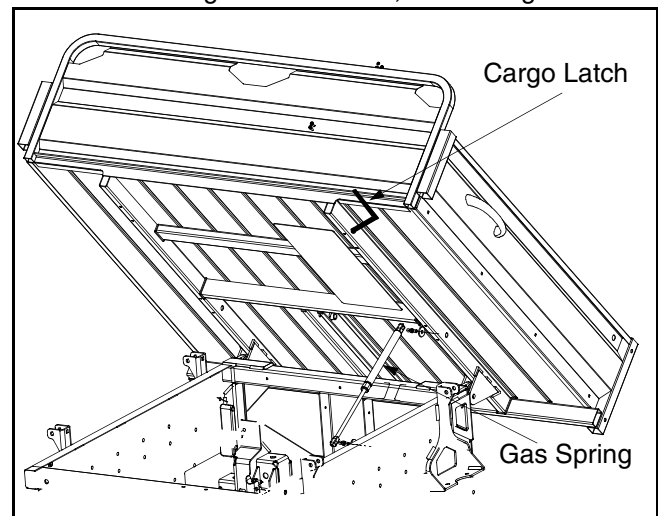

Figure 13
- Empty cargo by hand and unlatch cargo box by pushing down on the cargo latch. See Figure 13.